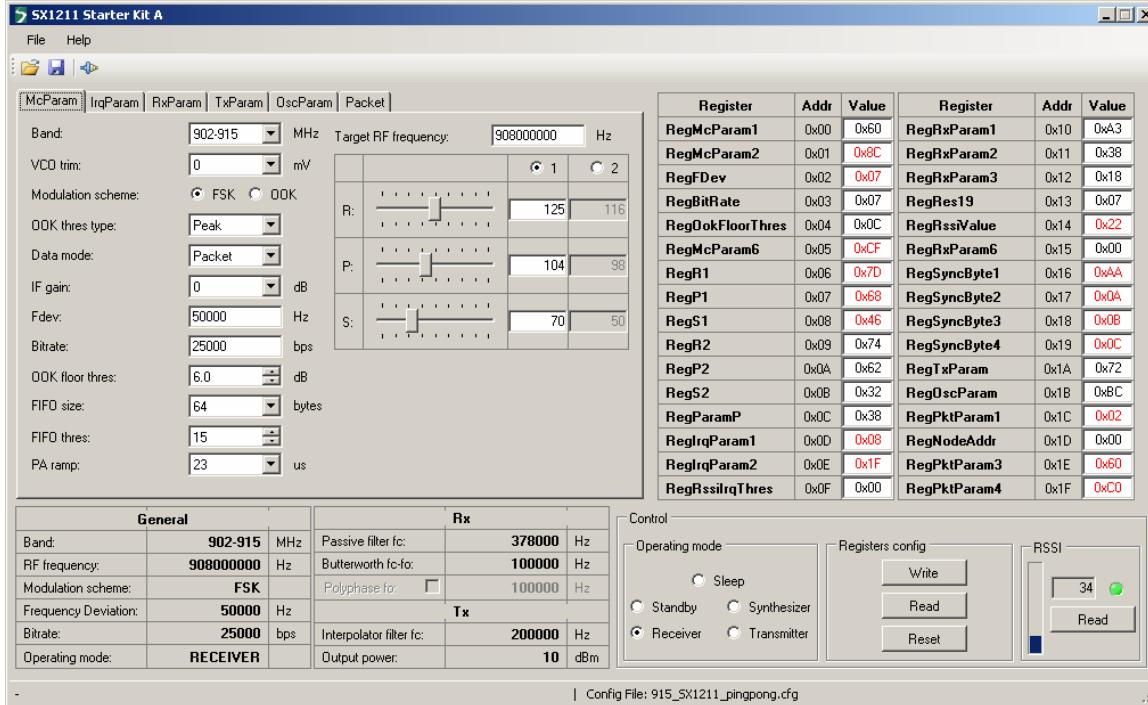

Figure 5. The New SX1211 Configuration: Ready to be Written
8. The display will then appear as shown in Figure 5.